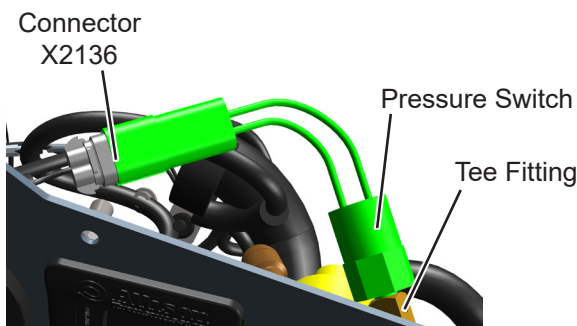

Figure 5
12. Apply Loctite® 567 (following package instructions) to threads of pressure switch (A001J487) and install switch in tee fitting where old switch was removed. See Figure 5. Tighten pressure switch hand-tight plus 2 – 3 turns.
13. Connect pressure switch connector to cab harness connector X2136. See Figure 5.